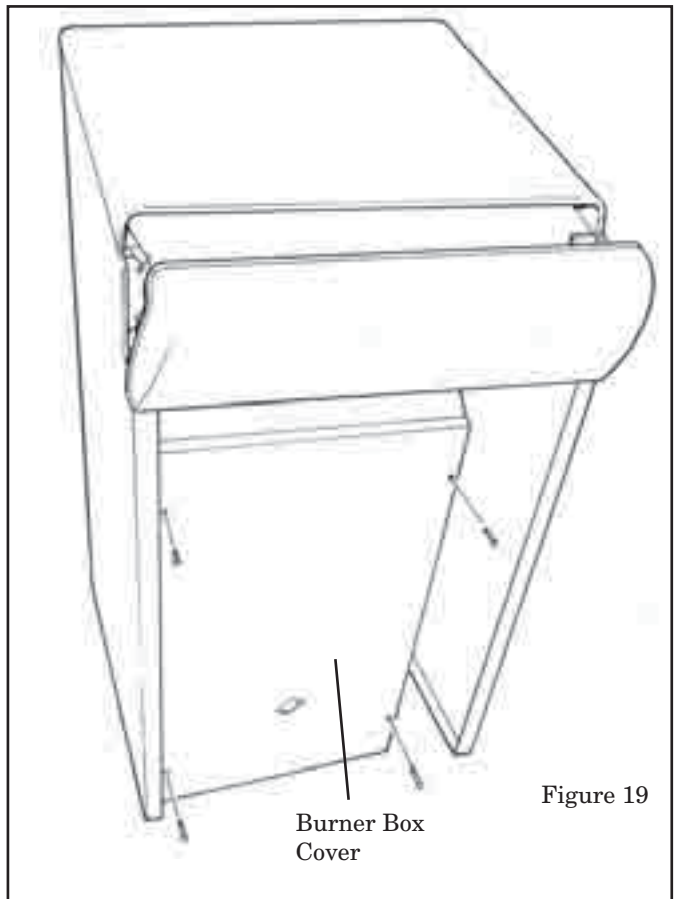

Figure 19
4. Remove the burner box cover by removing four screws. See Figure 19.